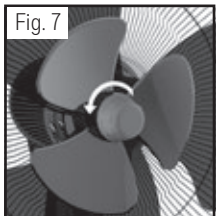

Fig. 7
4. Install the blade onto the shaft until the retaining pin fits into the notch on the blade. Now place the small blade on to the shaft making sure the alignment pin is inserted into one of the three holes on the large blade. (Fig. 7)
5. Screw blade nut to the motor shaft counterclockwise (tighten by turning to the left). (Fig. 7)